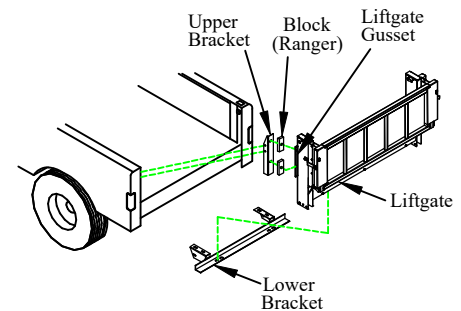

Figure 9: Liftgate mounting on pickup.
6. **Bolt** the lower bracket tightly to the liftgate with two (2) 1/2 x 3/4" bolts and two (2) lock-washers (Figure 9). There are nuts welded to the inside of the mainframe to accept the bolts.
9. **Fasten** each upper bracket to the liftgate gussets using four (4) 1/2" x 1-1/4" bolts and four (4) lock washers, supplied (Figure 9). Leave the bolts slightly loose.
Note: 1998 and newer Rangers require four (4) blocks to be sandwiched between the liftgate gussets and upper brackets (Figure 9).
14. **Drill** two (2) 1/2" diameter holes in each of the pickup's stake pockets, using the holes in the upper bracket as a guide.
15. **Bolt** the upper brackets to the stake pockets using one (1) 1/2" x 1-1/4" bolt, lock-washer, and nut in the upper hole, and one (1) 1/2" x 3/4" bolt, lock washer, and nut in the lower hole of each upper bracket.